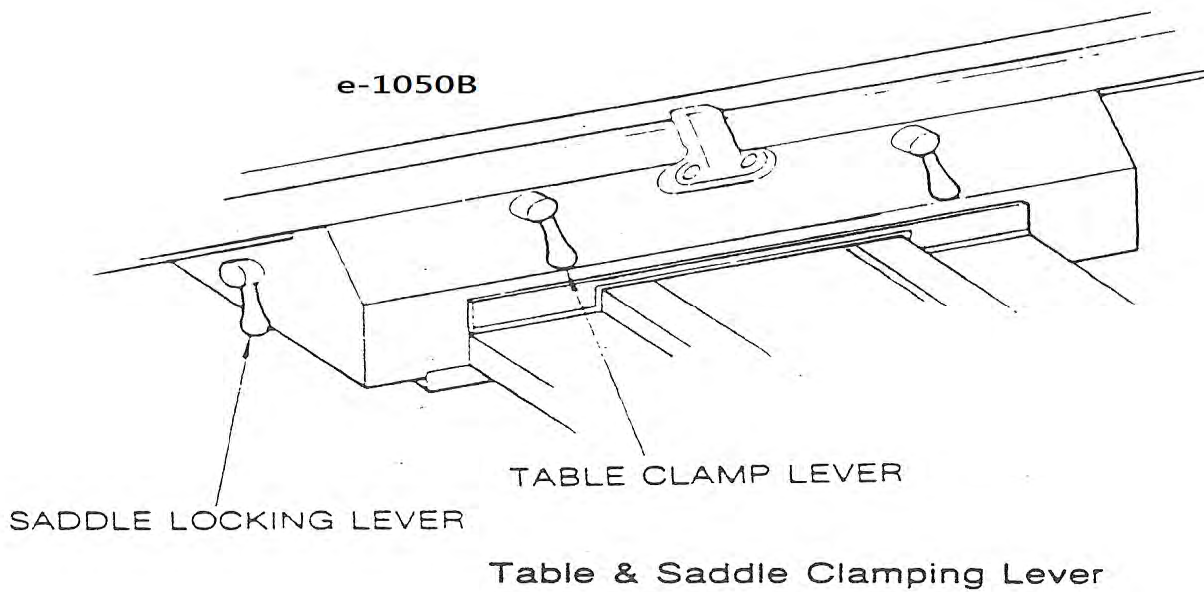

Figure 5
- a. X axis ball screw is fixed by tighten the table clamp lever to the saddle. (Fig 5)**
- b. Y axis ball screw is fixed by tighten the saddle locking lever to the saddle. (Fig 5)**